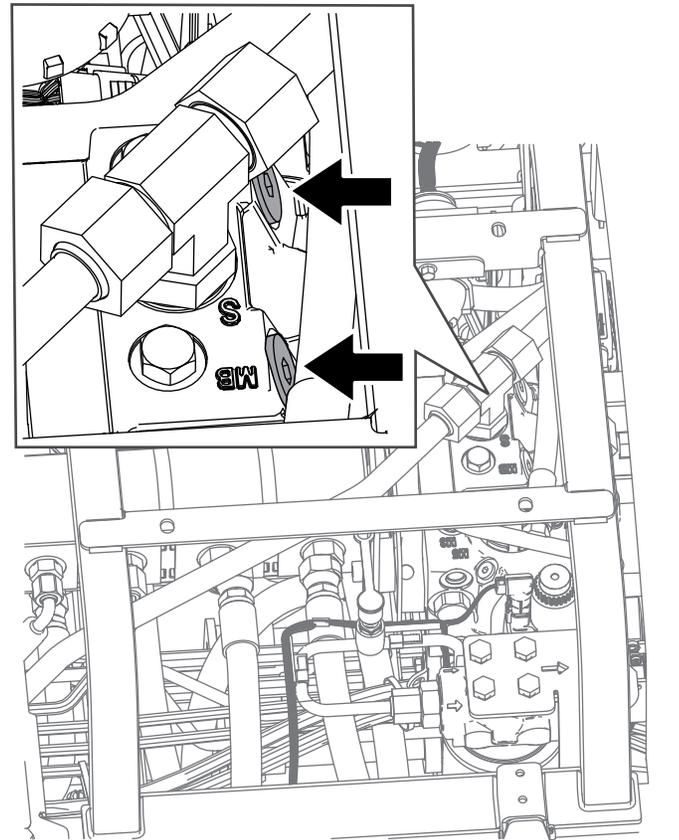

Figure 58
2. Locate the bypass valve under the seat and on the top of the hydrostat (Figure 58).